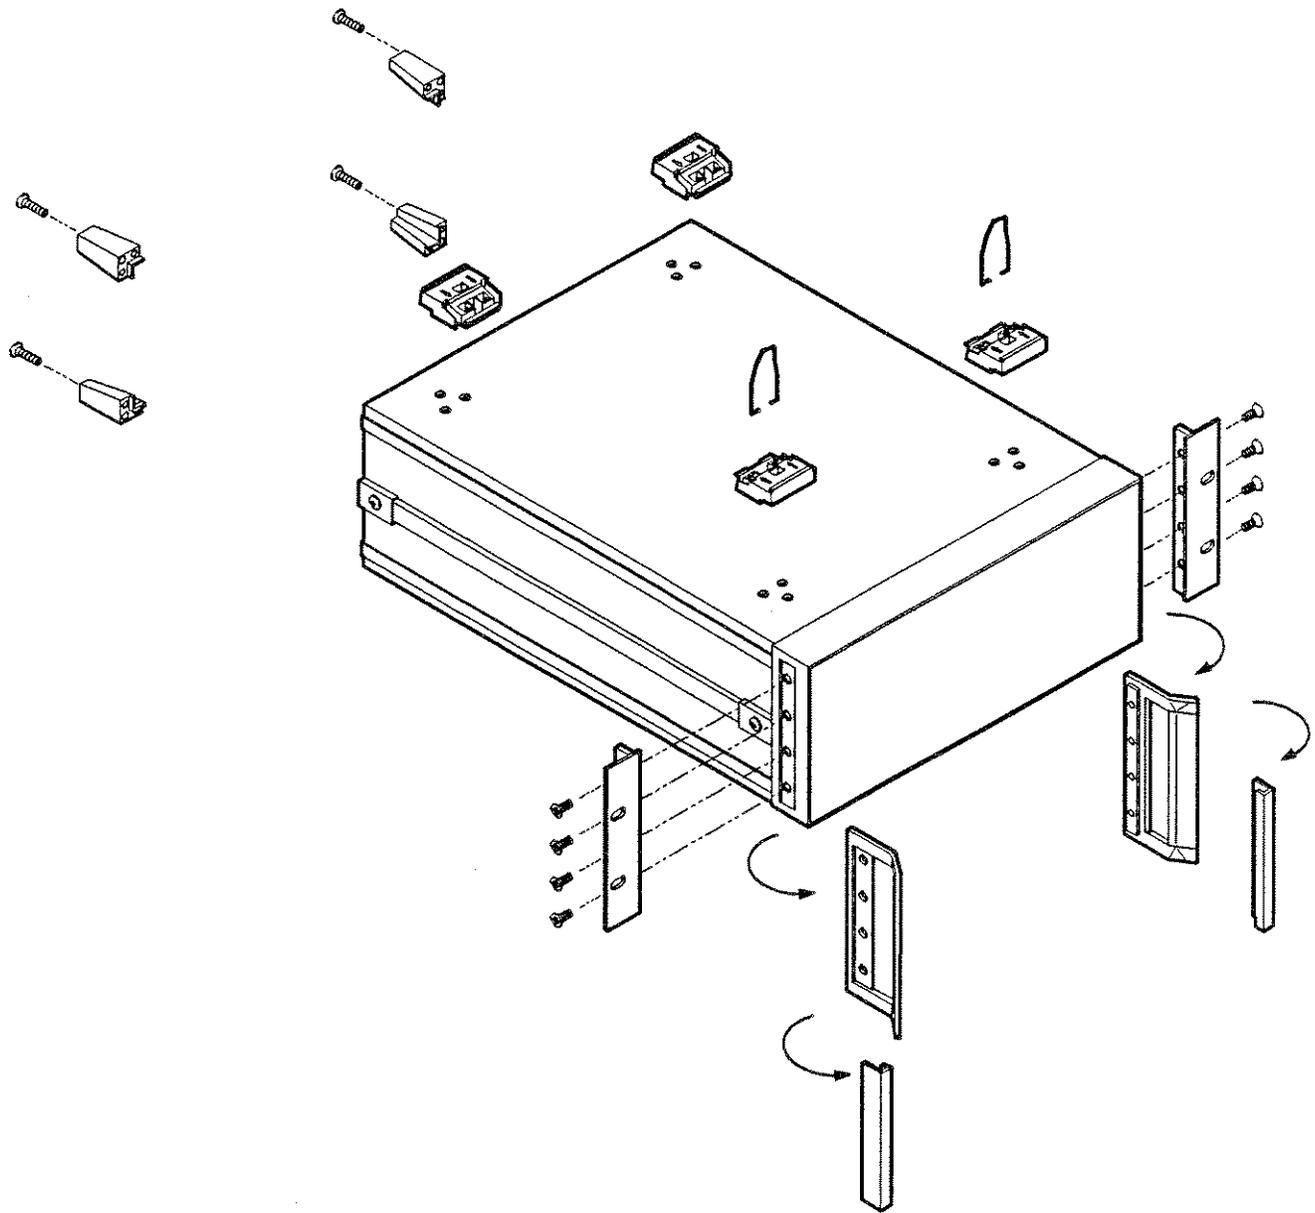

Figure 3-8. Rack Mount Flanges for Synthesizers with Handles Removed
1. Refer to Figure 3-8. Remove handle trim strips.